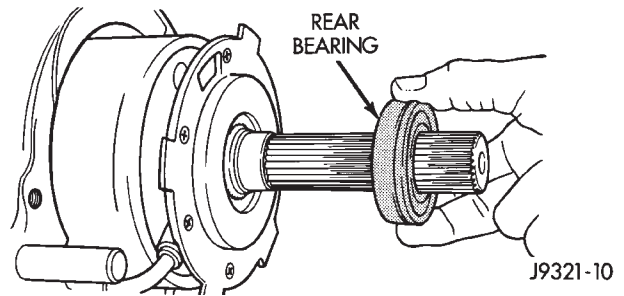

Fig. 73 Rear Bearing Installation
- (3) Insert oil pickup tube in pump (Fig. 73).
- (4) Install rear bearing on mainshaft (Fig. 73). Locating ring groove in bearing goes toward end of mainshaft.